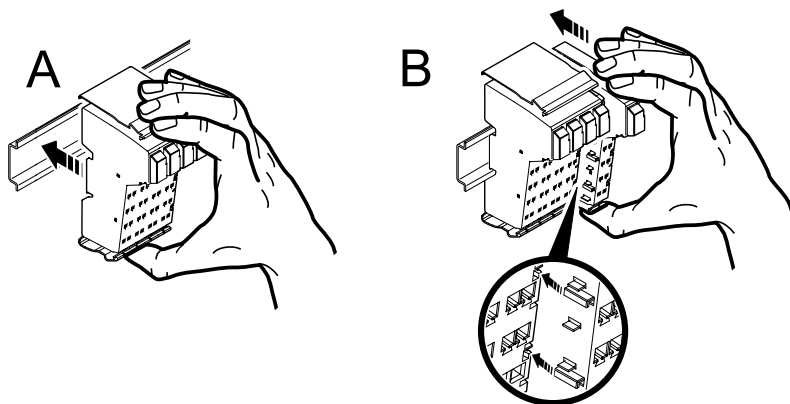

Fig. 10-10: Snapping on the terminal on the top-hat rail
2. First snap on the terminal required to set up the station perpendicularly to the top-hat rail (A in figure 10-10).
Ensure that **all** tongues and grooves of neighboring terminals are interlocked (B in figure 10-10).